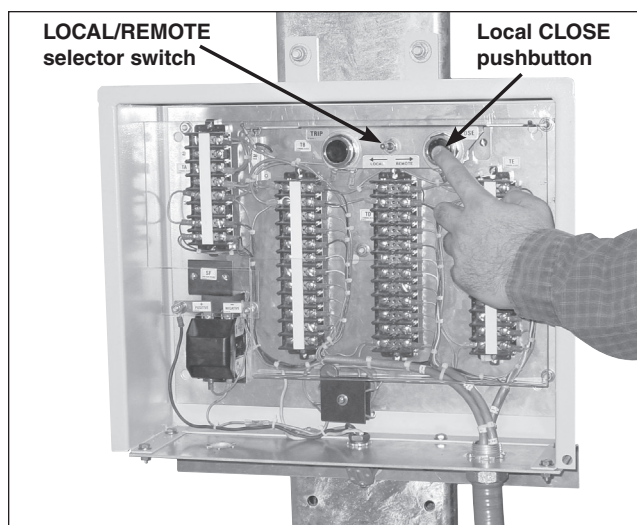

Figure 19. If furnished, press the local CLOSE pushbutton to close the Trans-Rupter II Transformer Protector.
STEP 14. Close the Trans-Rupter II Transformer Protector using the controls inside the low-voltage connection enclosure. See Figure 19.